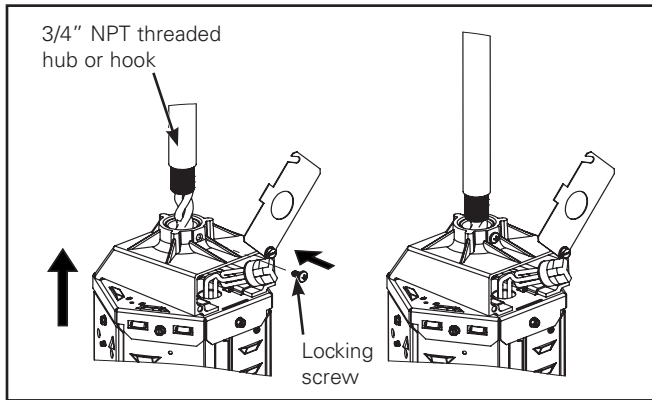

Figure 5.
3. Mount fixture to 3/4" NPT threaded hub and fasten screw to lock (Figure 5).